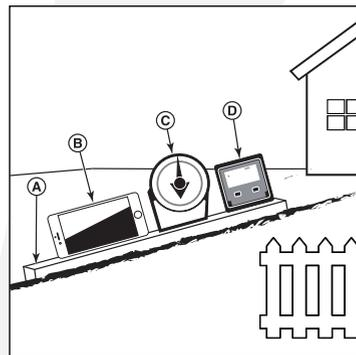

Fig. 1
1. Use a straight edge at least two (2) feet long (A, Fig. 1). A 2x4 or a straight piece of metal works as well.
- a. **Use your smart phone:** Many smart phones (B, Fig. 1) have an in-clinometer (angle finder) located under the compass application (app). Alternatively, you can search your phone's app store for an in-clinometer app.
- b. **Use angle finder tools:** Angle finder tools (C and D, Fig. 1) are available at local hardware stores or online (also called in-clinometer, protractor, angle meter, or angle gauge). Dial type (C) or digital type (D) work, others may not. Read and obey the user instructions supplied with the angle finder tool.
3. Put the two (2) feet long straight edge along the steepest part of the lawn slope. Put the board up and down the slope.